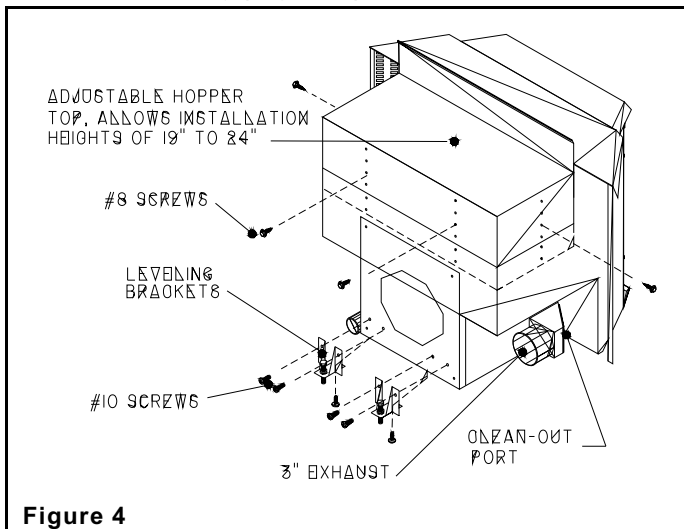
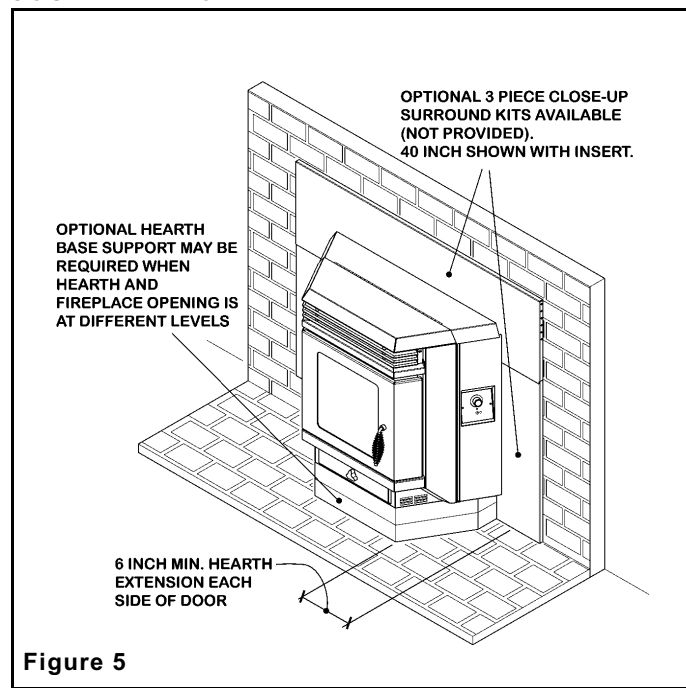

Figure 4
Figure 5
3. If the hearth and fireplace floor are not at the same elevation, leveling legs may be installed on the rear of the unit (Figure 4) for distances of up to 1". For larger distances shimming may be used using a non-combustible material. A Hearth Base Support is available from your dealer for installations where the hearth is below the fireplace opening (Figure 5).
6. Measure fireplace opening and adjust hopper top to the required level allowing for installation clearance. This is accomplished by removing the four #8 screws on the sides and rear of unit and raising the top by 1" increments until desired height and reinstalling screws (Figure 4).